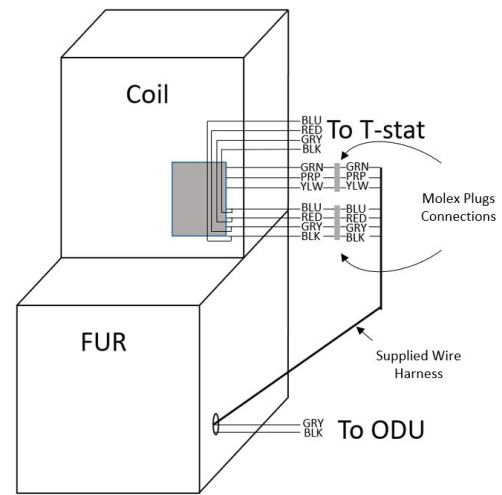

Figure 21
8. View Figure 21 for reference of Wire Harness Setup.
Typical wiring will consist of two wires between the indoor unit and outdoor unit and four wires between the indoor unit and thermostat. Figure 21 shows the required wires are: data lines, 1 and 2; "R" (24 VAC hot) and "C" (24 VAC common).